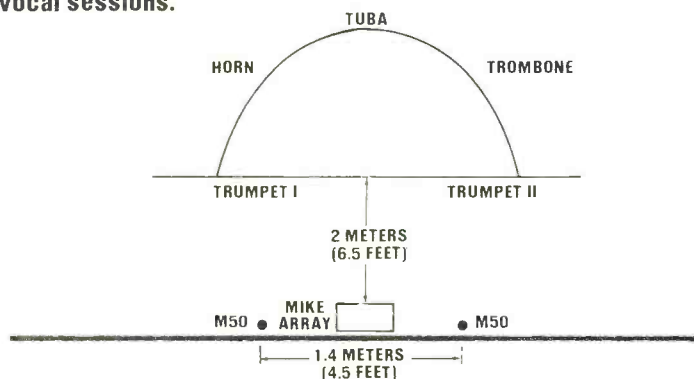

Figure 3: Layout for brass quintet sessions.
J.S. Bach: "Contrapunctus IX" from *The Art of the Fugue*, arranged by John Glasel for brass quintet; student ensemble (Figure 3).